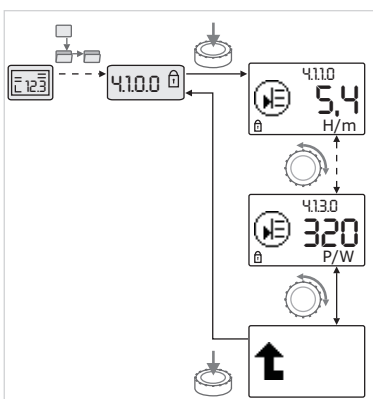

Fig. 37: Calling up information
- Turn the red button to access the "Information" menu elements in the current sub-menu (see Fig. 37). For an explanation of the settings represented by the symbols, see the table in chapter 8.7 "Menu elements reference" on page 87.